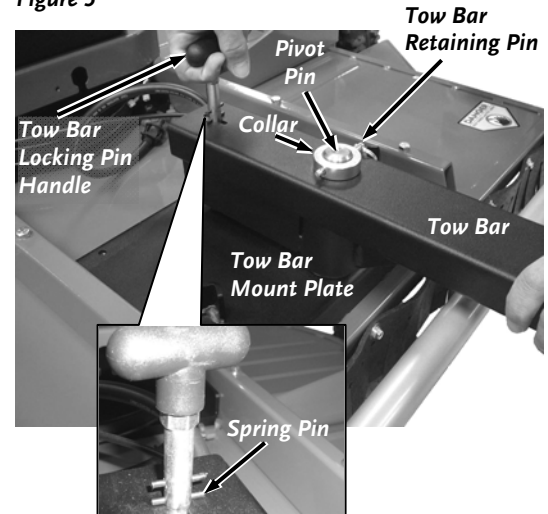

Figure 6
3. Pull the Handle of the Tow Bar Locking Pin up so its Spring Pins are above the Tow Bar and then twist the Handle 90° so the bottom Spring Pin rests on top of the Tow Bar (**Figure 6**).